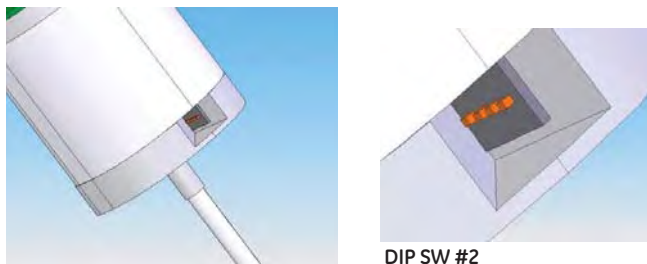

Figure 32 - Linear Transmitter Dip Switch Location
- Step 4:** The new transmitter Module can be either 20 mA Down or 20mA Up depending on the position of Dip Switch #2 (See Fig. 32)